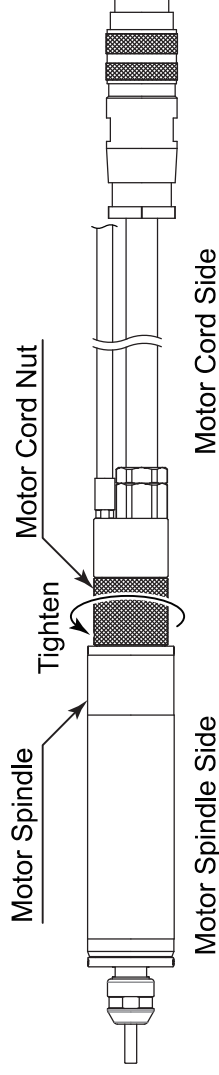

Fig. 27
- For BM-319 / BM-319F / BM-319FC / BM-320 / BM-320F / BM-322 / BM-322FR / BM-322FL / BM-322FS "Hose Length" indicates total hose length consisting of the Quick Disconnect Hose and the motor cord hose. See Fig 27 to see how to calculate "Hose Length".